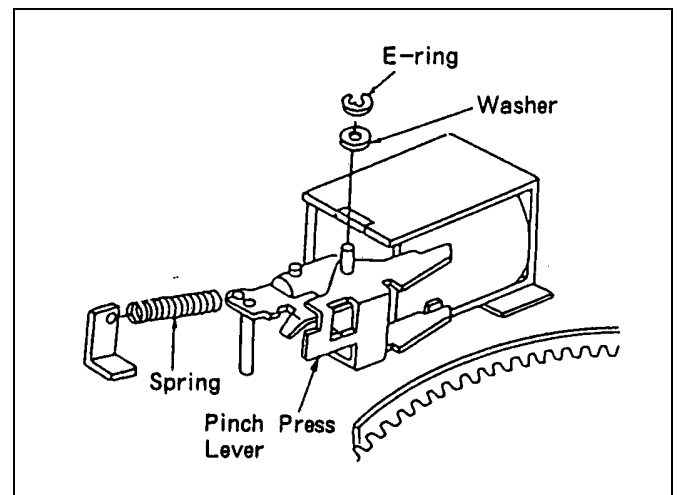

Figure 7-11-3 Pinch Press Lever Removal
2. Remove spring as shown in Figure 7-11-3.
3. Remove E-ring and washer as shown in Figure 7-11-3.